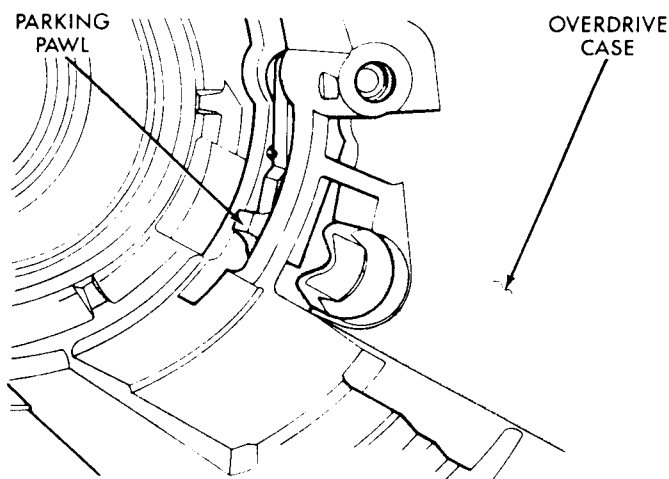

Fig. 1—Install Parking Pawl
(1) Install dowel, parking pawl, and spring back into overdrive case (Fig. 1). Then reinstall retaining bolt. Torque to 20 ft. lbs (27 N·m). Position reaction plug in place and install snap ring. Use care to squeeze the snap ring only enough to install it.